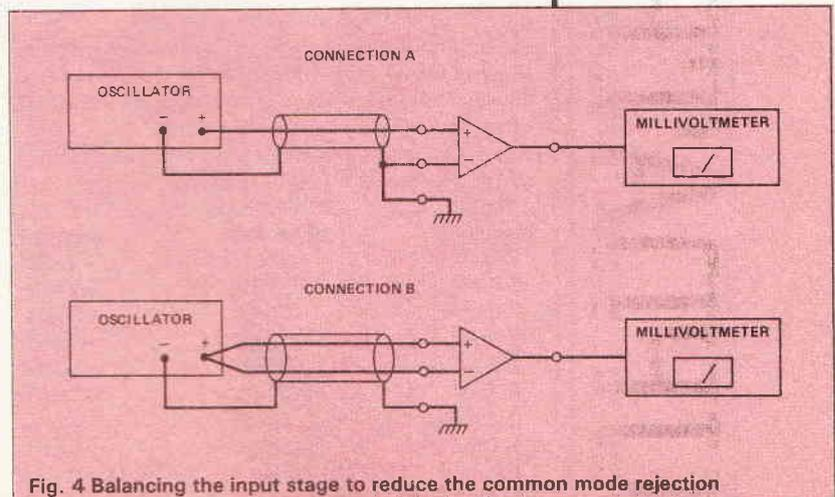

Fig. 4 Balancing the input stage to reduce the common mode rejection
- Using connection A of Fig.4, inject a 100Hz signal at a level that gives an output from the disc stage of +20dBm (7.75V)
- Change to connection B of Fig.4, and, while measuring the output voltage, adjust RV1 for minimum output.